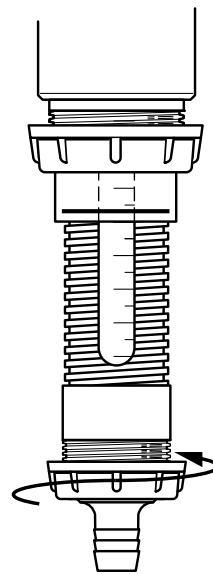

Fig. 26
- Screw on the black nut **K** (**Fig. 26**).